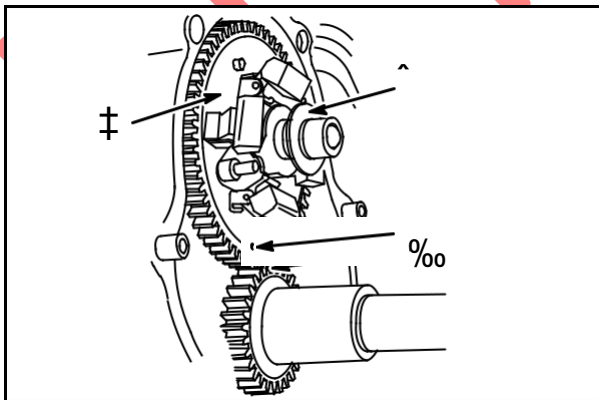

Fig. 26
Remove governor spool (8) from camshaft (7), **Fig. 26**. Discard gasket and O-ring.